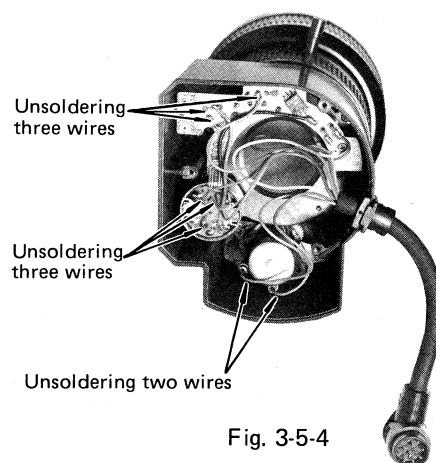

Fig. 3-5-4
- Unsolder the eight wires at zoom motor and iris assembly and remove the lens connector cable assembly. (Fig. 3-5-4)